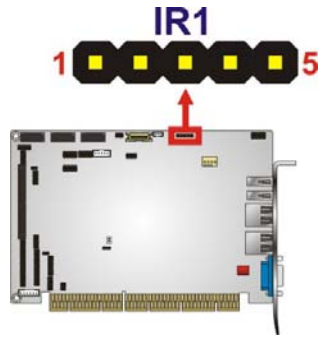

Figure 3-12: Infrared Connector Pinout Locations
- CN Location:** See **Figure 3-12**